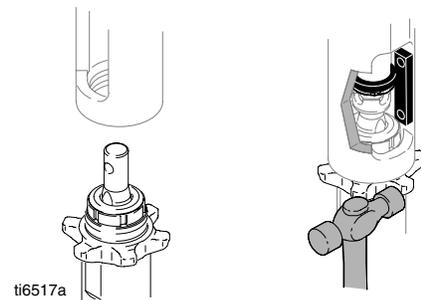

Fig. 14
2. Fig. 14 – 16. Install pump.
3. Install new reed switch and guard (137) on hydraulic motor.
1. Fig. 14. Screw jam nut to bottom of pump threads. Screw pump completely into manifold. Unscrew pump from manifold until pump outlet aligns with hose. Hand tighten jam nut, then tap 1/8 to 1/4 turn with hammer or torque to 200 ft-lb (270 N-m).